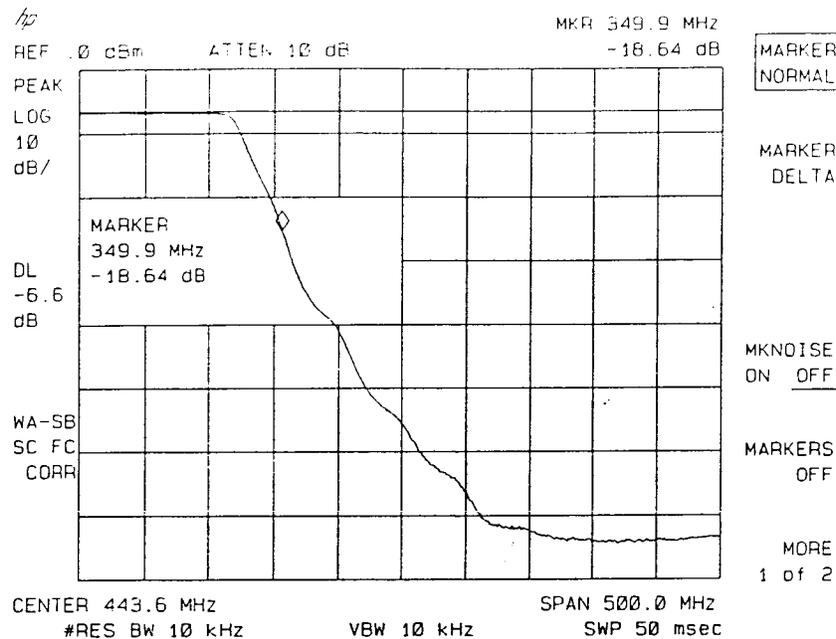

Figure 2-42. Measure the Rejection Range with Delta Markers
- To measure the rejection of the filter at a given frequency, press **(MKR)**, and enter the frequency. For example, enter 350 MHz. The marker readout displays the rejection of the filter at 350 MHz (see Figure 2-42).